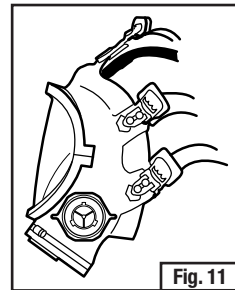

Fig. 11
3. Thread the assembled 3M™ Bayonet Adapter 701 into the cartridge connector port – do not tighten (the orange gasket will be facing outward). Align the small solid bayonet lug to the bottom of the facepiece lens and tighten the nut. Place another 3M™ Bayonet Adapter 701 in the opposite cartridge connector port following the same procedure (Fig. 11).